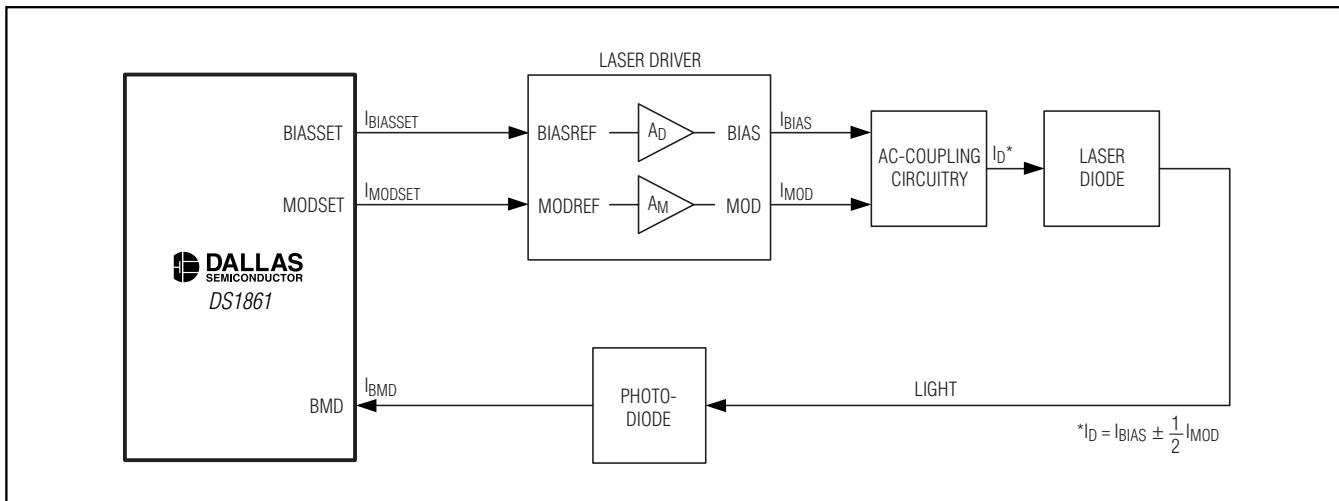

Figure 8. AERC Block Diagram
The DS1861 injects a small disturbance current to measure the gain (light/mA) of the laser driver and laser diode pairing. This control methodology makes the extinction ratio insensitive to changes in the photodiode's responsivity due to temperature and aging effects, as long as the ratio of the laser driver's bias current gain (AD) and modulation current gain (AM) remains constant (Figure 8).